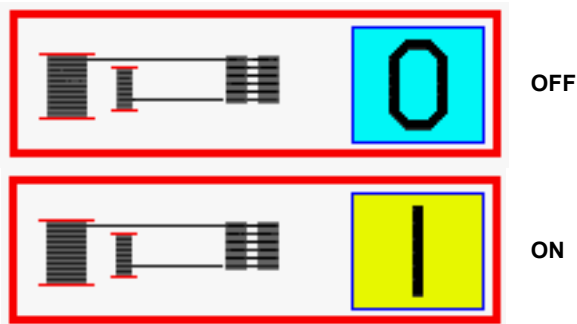

FIGURE 4-29
See Figure 4-29 and Figure 4-30 in the following procedure.
2. In **level 2**, use the select buttons to enter selected drum screen options. Select rigging winch data box (Figure 4-29).
2. In **level 2**, use the select buttons to enter selected drum options screen. Select rigging winch data box (Figure 4-29).